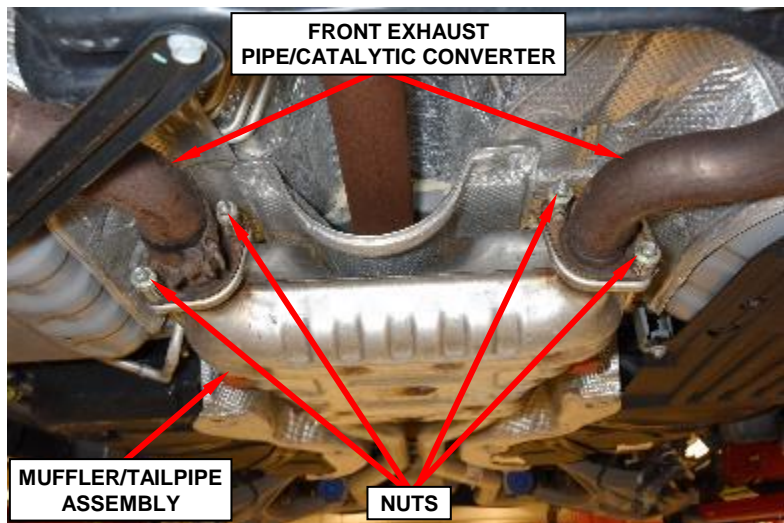

Figure 12 – Exhaust System Flange Nuts
2. Saturate the nuts with heat valve lubricant (Figure 12).
3. Remove and save the front exhaust pipe/catalytic converter to muffler/tailpipe assembly flange nuts (Figure 12).
32. Install the front exhaust pipe/catalytic converter to muffler/tailpipe assembly flange nuts. Tighten the nuts to 47 N·m (35 ft. lbs.) (Figure 12).